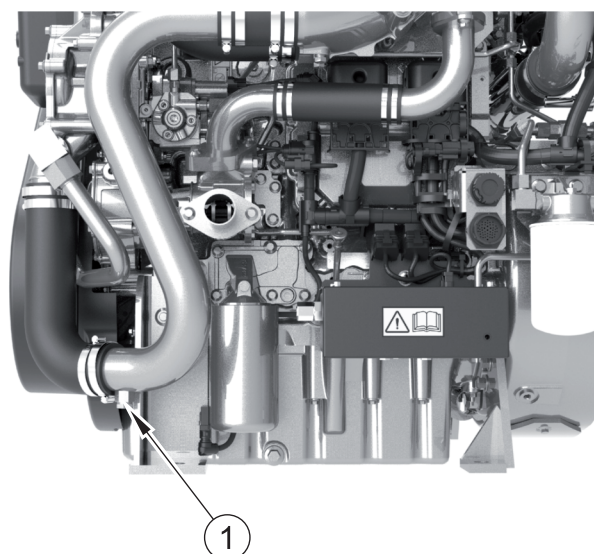

Figure 2
2. Remove the drain plug (figure 2 item 1) from the heat exchanger pipe.